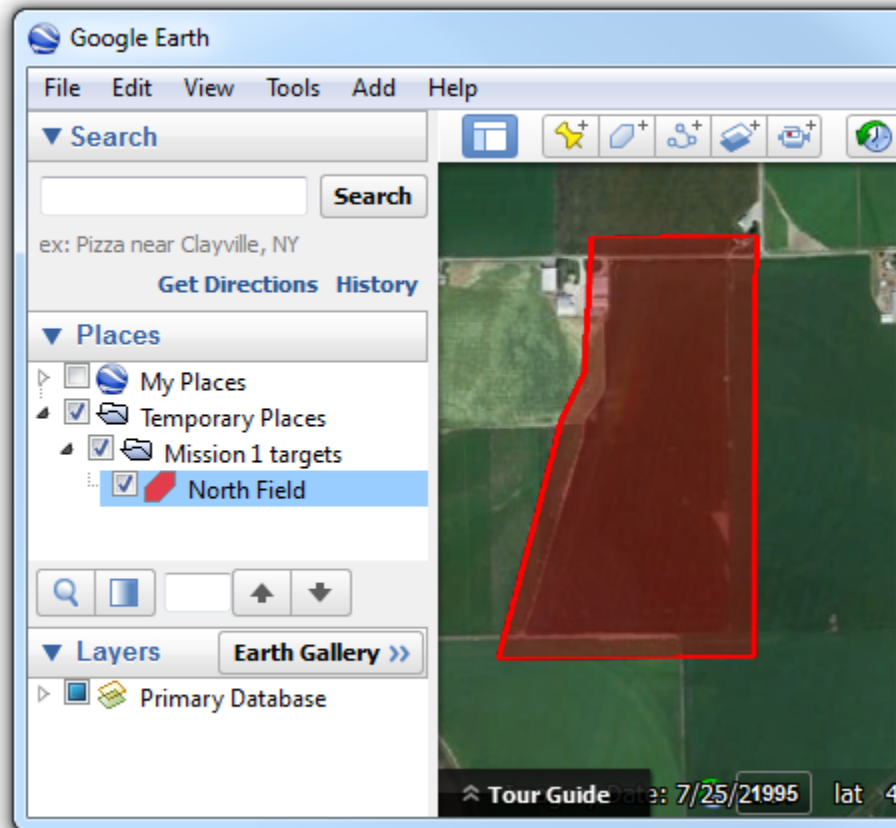

Fig. 3.18: KML target definitions in **Google Earth**
3. Click points around the desired area to define a polygon (Fig. 3.18). Polygon fill colors, border widths, etc. are customizable in **Google Earth** and have no effect on the flight computer.